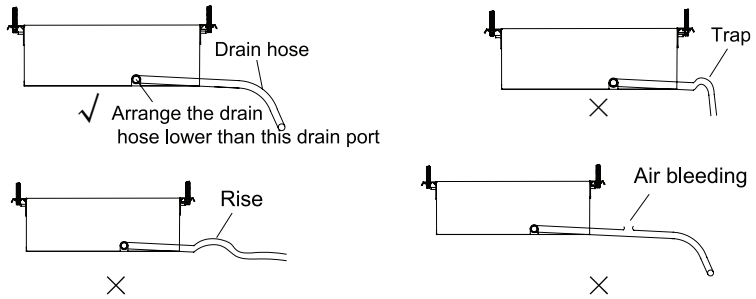

Fig.4.21
- (1). Install the drain hose with downward gradient (1/50 to 1/100) and no risers or traps are used for the hose.(Fig.4.21)
- (2). Be sure there is no crack or leak on the drain hose to avoid the formation of air pocket. (Fig.4.21)